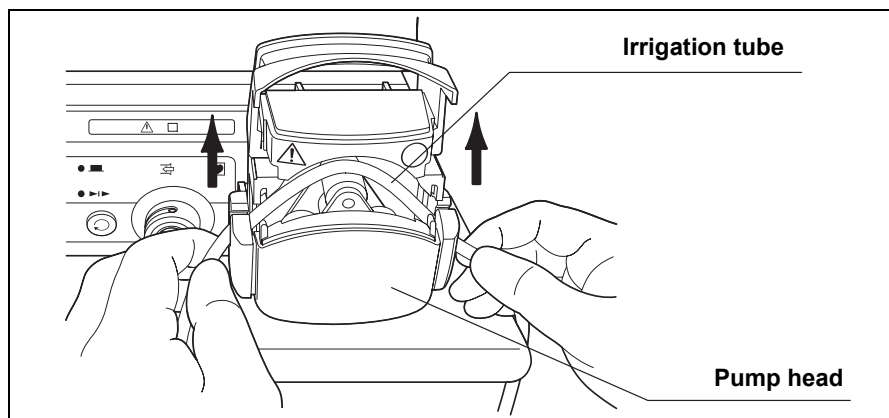

Figure 7.10
9. Detach the irrigation tube of the irrigation/suction tube from the roller (see Figure 7.10).